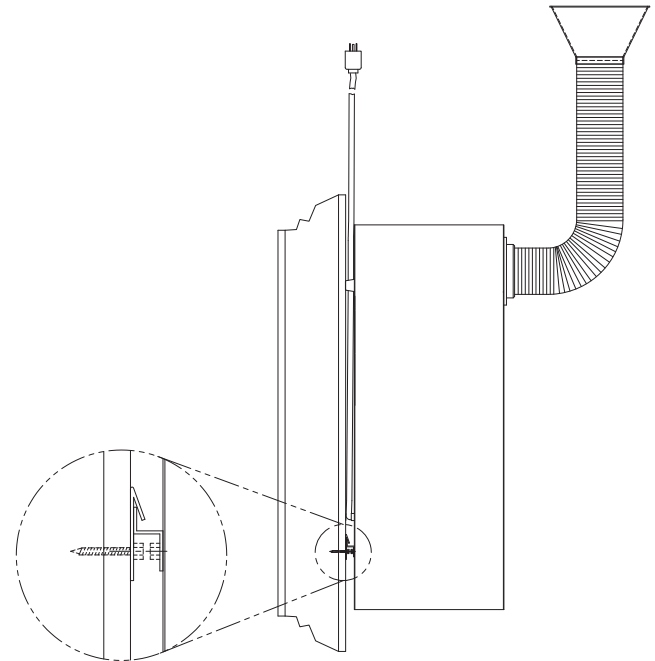

Fig. 4
B. Vertical Wall Mount Assembly (Fig. 4)
4. Once the wall bracket and unit bracket are in place, lift the SC150 and mount to the wall bracket (Fig. 4).